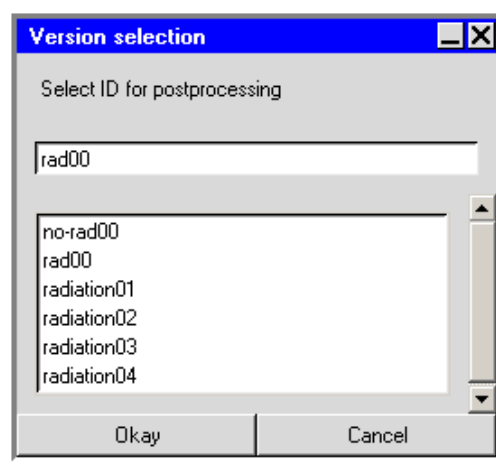

Figure 29.5.2: The Version selection Panel
You can create a summary for each solution that you generate in Airpak. To create a summary data file for a particular solution, select **Solution overview** and then **Create** in the **Report** menu. This opens a **Version selection** panel (see Figure 29.5.2) where you can select the solution ID to use to create the summary report.
Selected allows you to either enter the solution ID in the **Solution ID** text entry box or select the solution ID using the **Version selection** panel. Click **Select** to open the **Version selection** panel (Figure 29.5.2).
1. Specify the **Solution ID** for which you wish to create a report. You can either enter the solution ID in the **Solution ID** text entry box, or select the solution ID using the **Version selection** panel. Click **Select** to open the **Version selection** panel (Figure 29.5.2).